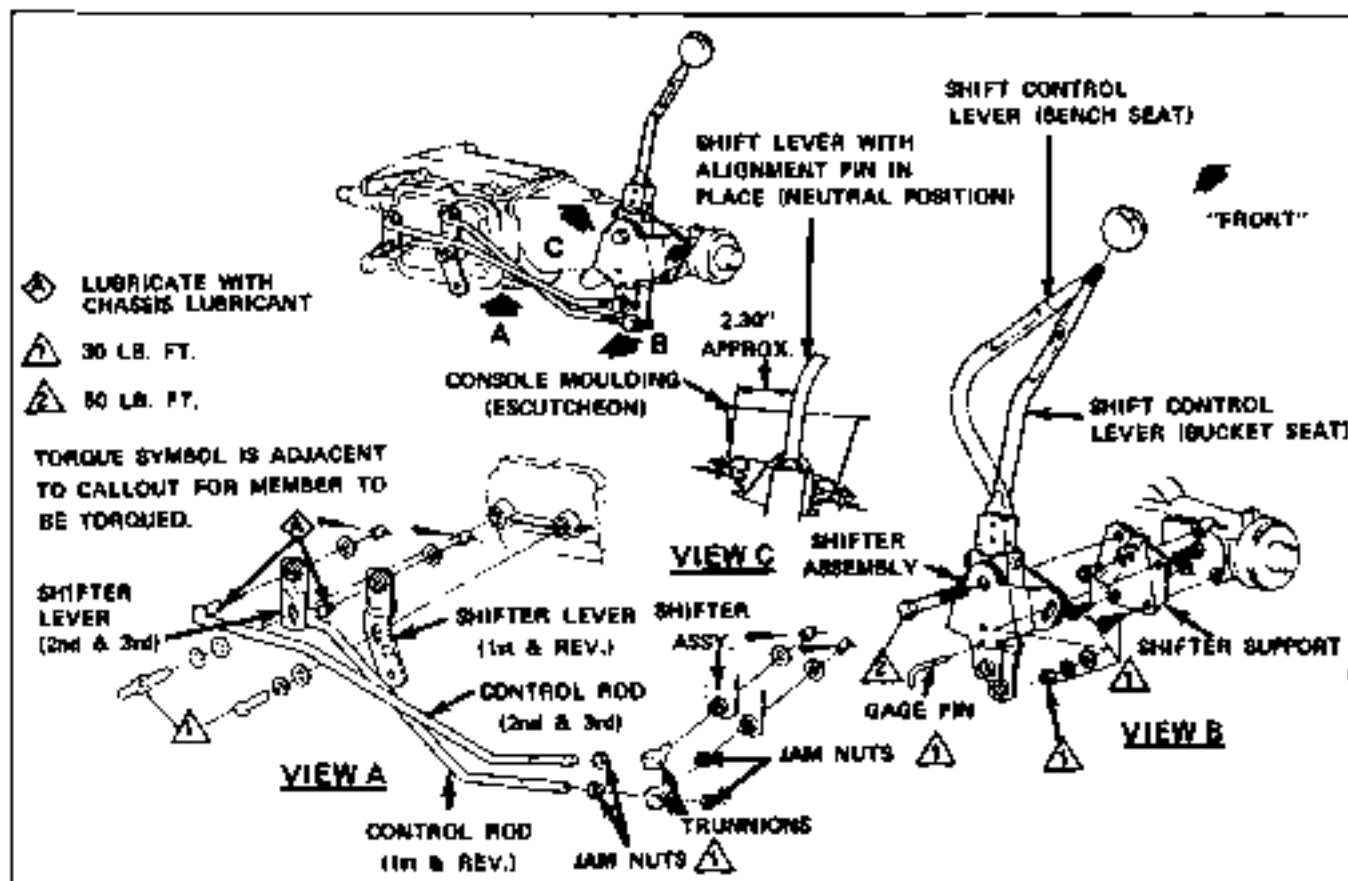

Fig. 7B-3 Tempest Floor Shift Controls
2. Disconnect transmission shifter levers (1st & Reverse and 2nd & 3rd) from transmission shifter shafts (Figs. 7B-1 and 7B-2). On floor shift control cars, also remove two (2) shifter assembly-to-extension support bolts (Figs. 7B-3 and 7B-4).
NOTE: On Firebird 6-cyl., remove driveline damper (Fig. 7B-27).